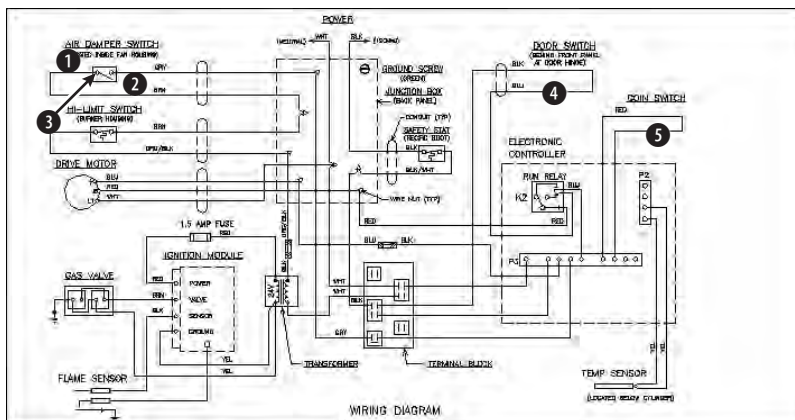

Figure 10-47: A wiring diagram
2. Save the file as ab10-14.dwg in your AutoCAD Bible folder. This is a wiring diagram, as shown in Figure 10-47. Set ORTHO and OSNAP on. Set an endpoint running object snap.
4. At the Select objects: prompt, use a window to select the AIR DAMPER switch, picking at ❶ and ❷ in Figure 10-47. Press Enter to end object selection. AutoCAD returns you to the Object Grouping dialog box. Click OK.